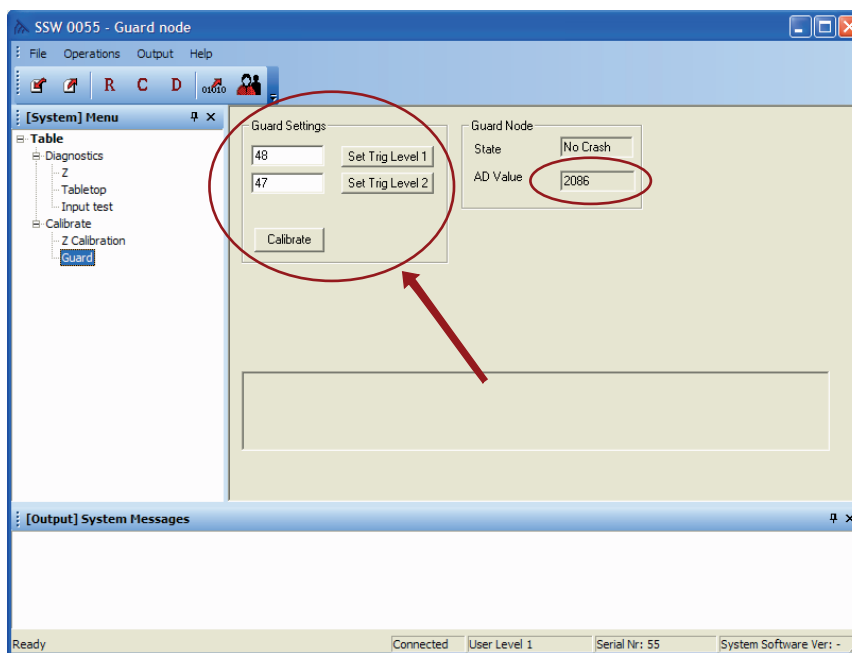

Fig. 5-163 *Guard Setting*
3. Check the value displayed in the *AD value Edit* box. The value shall be 2500 +/-500, see Fig. 5-163 *Guard Setting*.
5. If necessary adjust the trig levels by entering a new value Guard settings Edit boxes and pressing the coherent button (Set Trig level 1 and/or Set Trig level 2) see Fig. 5-163 *Guard Setting*. 2-3 points are approximately 10N.